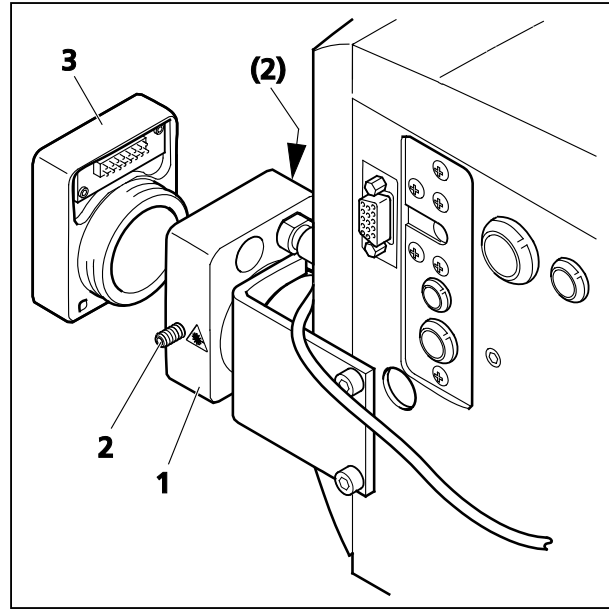

Fig. 23 Laser safety cover for LSM *BiG* port
- Push the laser safety cover (Fig. 23/3) to the port (Fig. 23/1) and fasten the two fastening screws (Fig. 23/2).